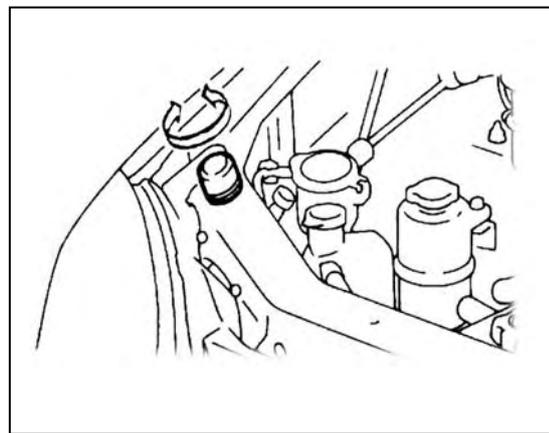

Fig. 19-32
- ② Adjust the height of bonnet as shown in Fig. 19-32.